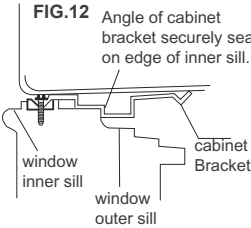

FIG.13A
4. **For wooden window:** Fasten cabinet to window inner sill with two 1/2" long hex head screws into holes (FIG.13A). (You may wish to pre-drill pilot holes.)